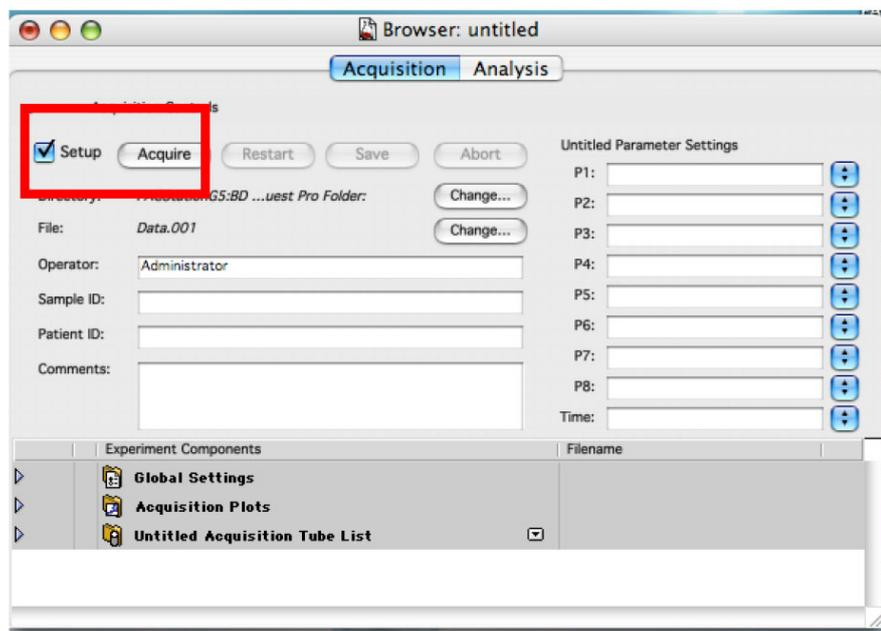

Figure 8. The Browser in 'Setup' mode. This allows you to analyze cells without saving any data.
15. Ensure the 'Setup' check box is checked and click on 'Acquire' (Figure 8).